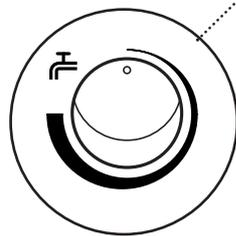

Fig. 11
4. **Domestic Hot Water:** The temperature of the domestic hot water can be adjusted by turning the control knob clockwise to increase up to a maximum of 60° C (Fig. 11). As the control knob is turned the selected temperature is displayed for approximately 4 seconds. The display then reverts to the current boiler output temperature.